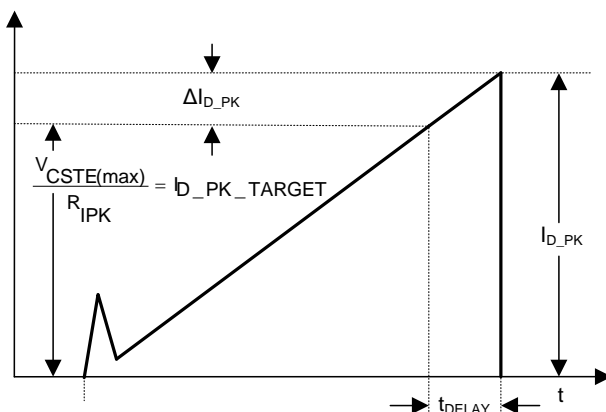

Figure 26. Propagation Delay Effect on the Primary Current Peak
During normal operation the on-time is determined by sensing the power FET current and switching off the power FET as this current reaches a threshold fixed by the feedback loop according to the load condition. The power FET is not immediately turned off and its current, that is also the primary winding current, continues to rise for some time during the propagation delay (t_{DELAY} in Figure 26). Keeping the reference for the PWM comparator constant, the value of the primary winding peak current depends on the slope of the primary winding current and t_{DELAY} . The slope of the primary current is proportional to the flyback stage input voltage (V_{BULK})
The current loop estimates the output current assuming the primary winding peak current is equal to the $I_{\text{PK_TARGET}}$ and compares this estimated current with a reference to obtain the current regulation. Considering, I_{D_PEAK} is different from $I_{D_PEAK_TARGET}$ (see Figure 26) we need to compensate the effect of the propagation delay. The UCC28910 and the UCC28911 incorporate fully-integrated propagation-delay compensation that modifies the switching frequency keeping the output current constant during (CC) Constant Current Mode operation. This function is integrated in the controller and requires no external components. This feature keeps the output current constant despite input voltage variations and primary inductance value spread.